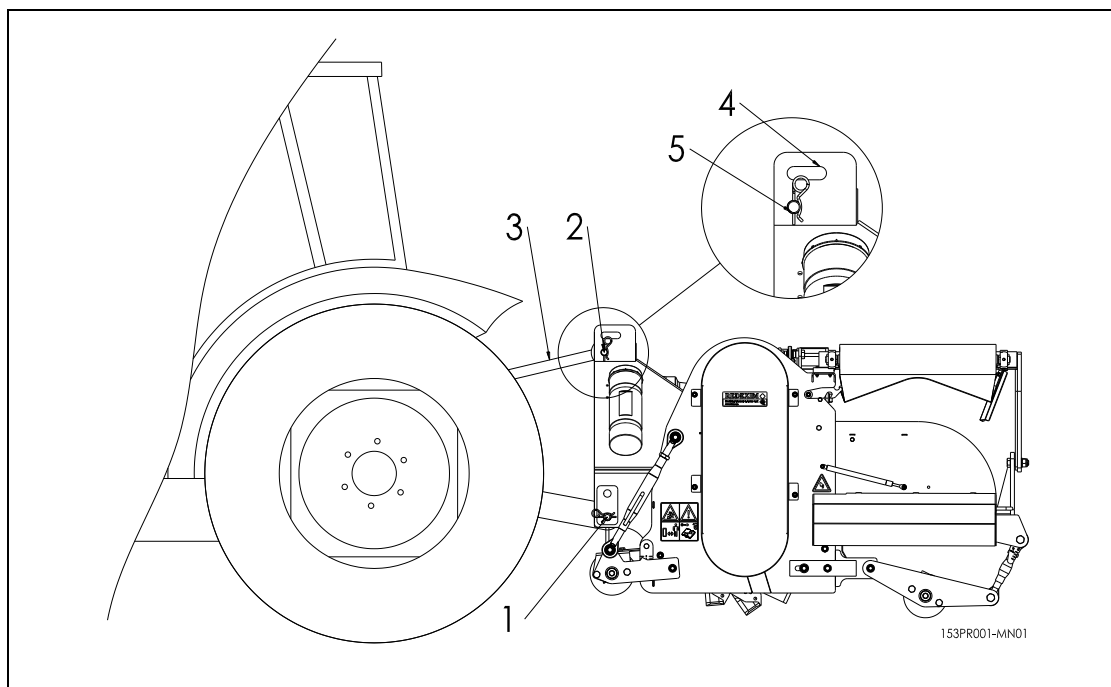

Figure 9
The procedure is as follows (Figure 9):
In order to set the PTO to the correct length, when a new one has been purchased or when a different tractor is used, follow these steps (see Figure 9):
Make sure that the uppermost top rod is attached and is pressurized in the transport position (position 5)! See Chapter 4.0, figure 9. If this is not done, the machine can incur serious damage.
6. If required, the top rod can be placed in the slotted hole (4) in the towing position (see Chapter 4.0, figure 9).